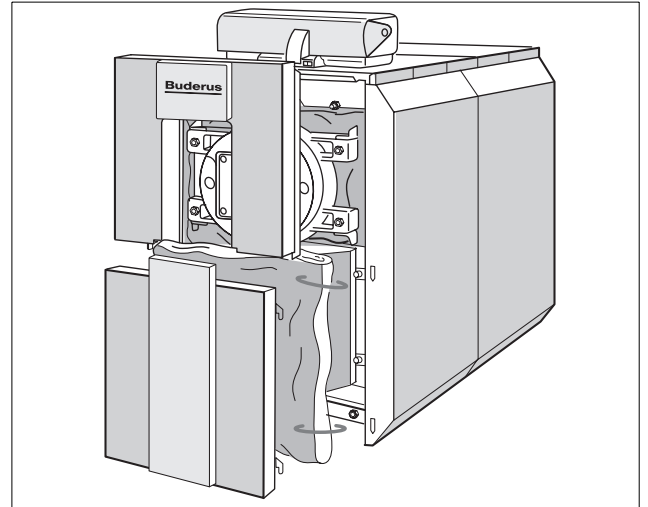

Fig. 25 Removal of front panels and insulation blankets
- Remove upper and lower front panel (Fig. 25).
- Remove insulation blanket (Fig. 25).
- Install upper and lower boiler front panels (Fig. 25).
4	Remove front jacket panels, open burner door (Fig. 25, page 25)